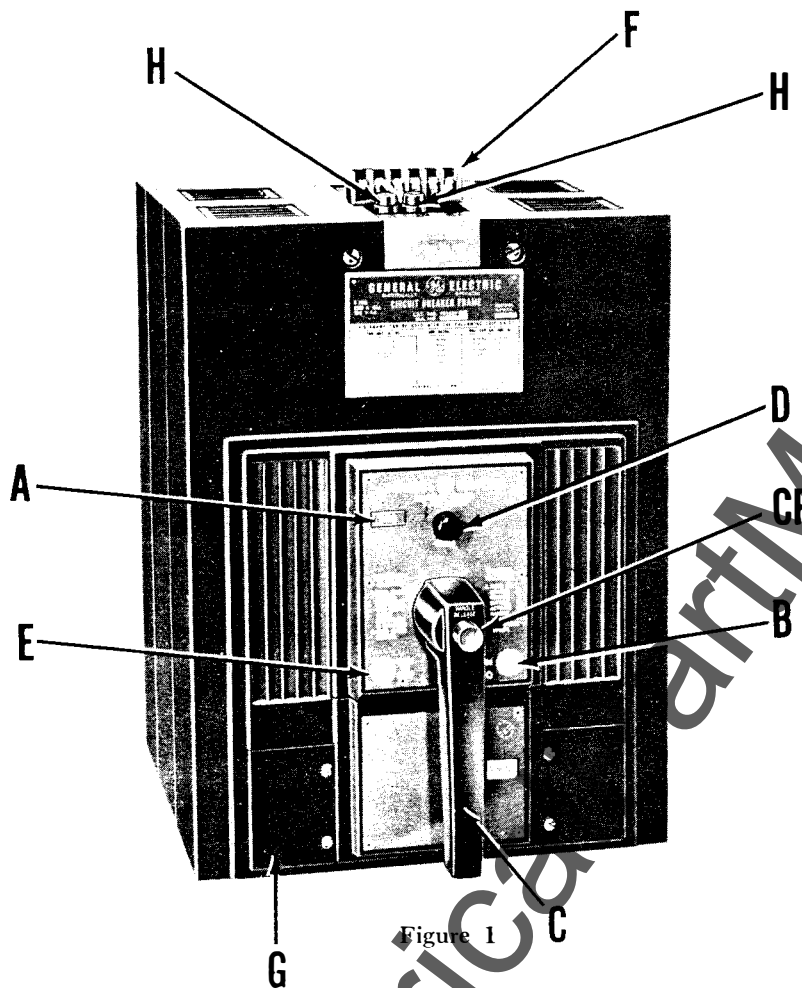

Figure 1
2. Remove trip unit escutcheon plate Figure 1 (G) by removing screws Figure 2 (J).